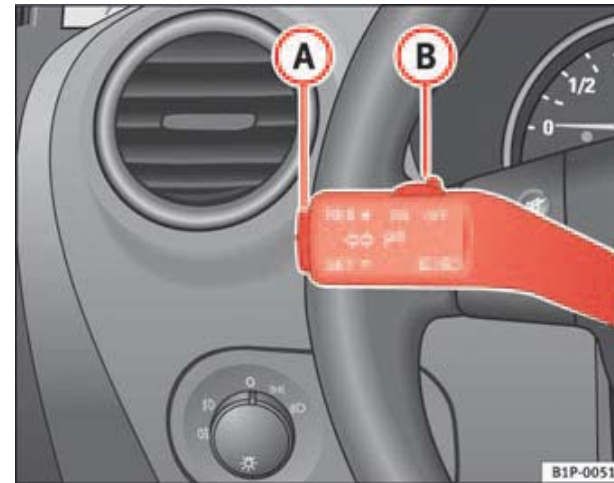

Fig. 127 Turn signal and main beam lever: switch and rocker switch for CCS
- Press the upper part **RES+** of the rocker switch ⇒ fig. 127 **A** to increase the speed. The vehicle will continue to accelerate for as long as you keep the rocker switch pressed. When you release the switch, the new speed is stored.
Control of the set speed is switched off if you reduce speed by depressing the brake pedal. You can reactivate the control by pressing once on the upper part of the rocker switch **RES+** ⇒ page 166, fig. 127 **(A)**.